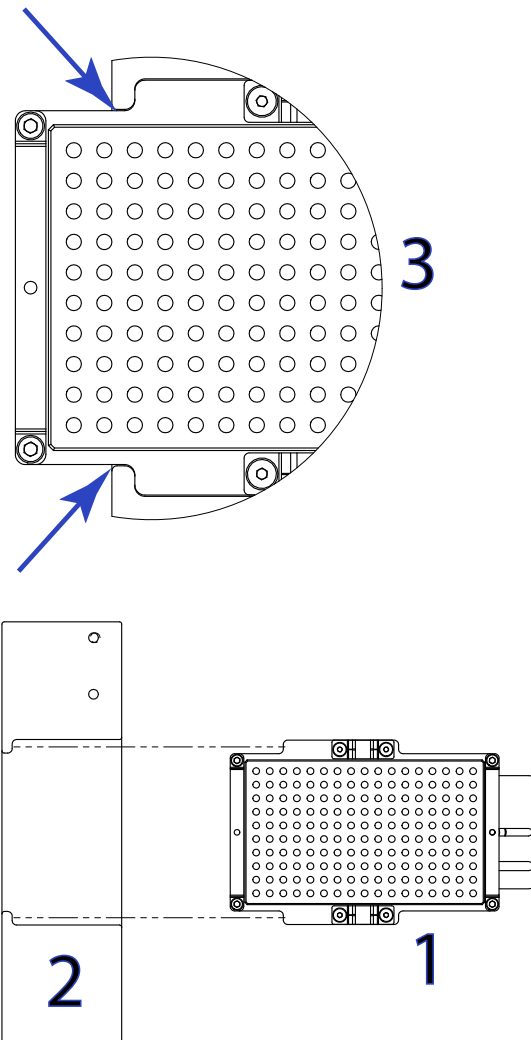

Figure 36. Sliding the calibration plate onto the plate holder
2. Refer to Figure 36 on page 68 and slide the calibration plate (1) into the slot in the plate holder (2) until it stops.
Make sure that the calibration plate is fully inserted into the holder, as shown by (3) in Figure 36 on page 68.